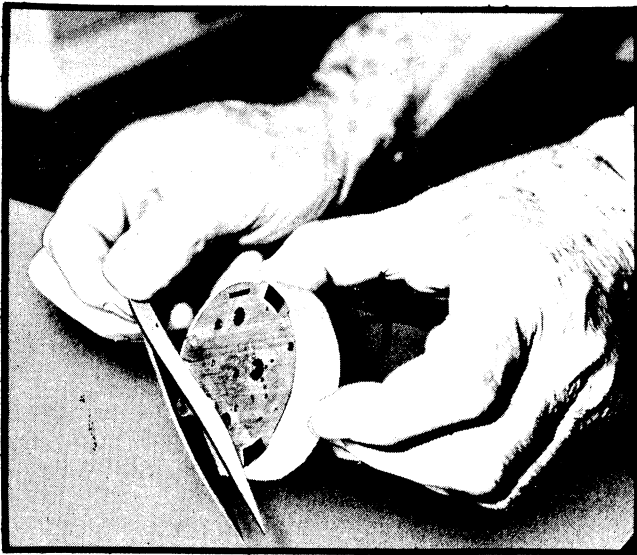

Figure 24
- b. Place tweezers over pinion as previously outlined, Figure 24.